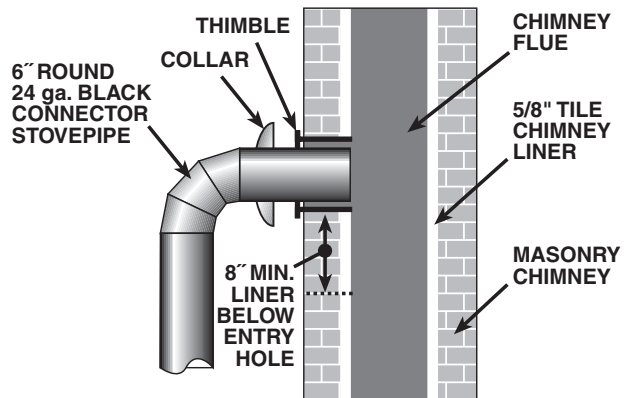

Figure 5 - Masonry Chimney Connection
Before using an existing masonry chimney, clean the chimney, inspect the flue liner and make any repairs needed to be sure it is safe to use. Make repairs before attaching the stove. The connector stove pipe and fittings you will need to connect directly to a lined masonry chimney are shown in figure 5.
2. Install a metal or fire clay (5/8”/16mm minimum thickness) thimble. Make sure the thimble is flush with the inner surface of the chimney liner and does not protrude into the flue (see figure 5 on page 9).